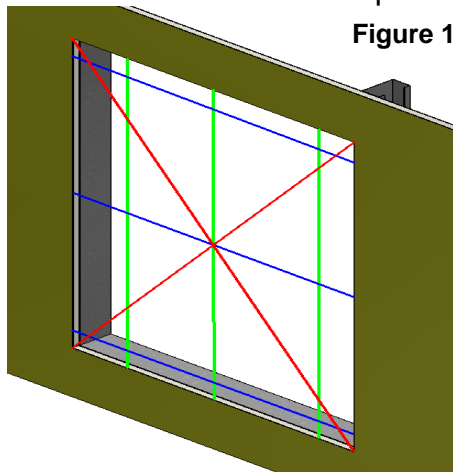

Figure 1
1. Measure rough opening (RO) to ensure RO matches the approved shop drawings or contract documents.
2. Opening should be measured at three different locations both horizontally and vertically. See blue & green lines in Figure 1
3. Verify opening is square by taking two diagonal measurements. See red lines in Figure 1. Measurement tolerance = $\pm 1/8"$